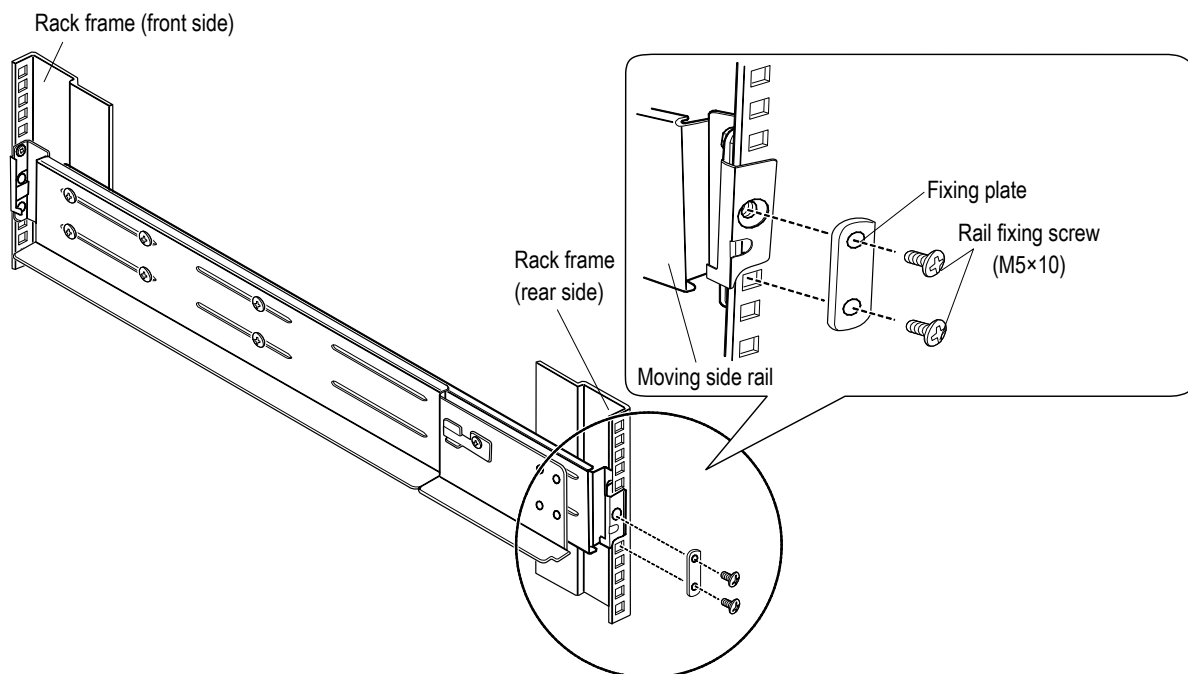

Figure 2.2.27 Installing Rack Rails (Square Hole) for Drive Box (2U)-3
- (vi) Fix the moving side rail (R) using the fixing plate with two screws (M5×10) (See Figure 2.2.27.)
- (vii) Fix the fixed side rail (L) and the moving side rail (L) in the rack frame in the same way following the steps (i) to (vi).